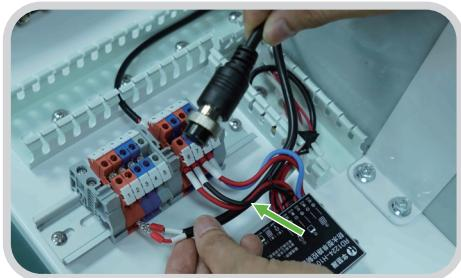

Figure 21-1
As shown in figure 21-1, the battery output line red (1) black (-) line from the solar controller line through the lower part, connected to the terminal row 2(Red) , 3(black) interface, and the terminal screw tightening, as shown in figure 21-2; Line Boxes A and B as shown in figure 21-3.